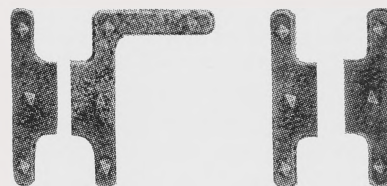

Fig. 10—L and H
H. and L. hinges are popular in certain types of interior doors and cabinets and sometimes these are made as complete hinges. At other times and on less expensive work, plates screwing tight to the regular door butts are considered adequate as shown in Fig. 10. The